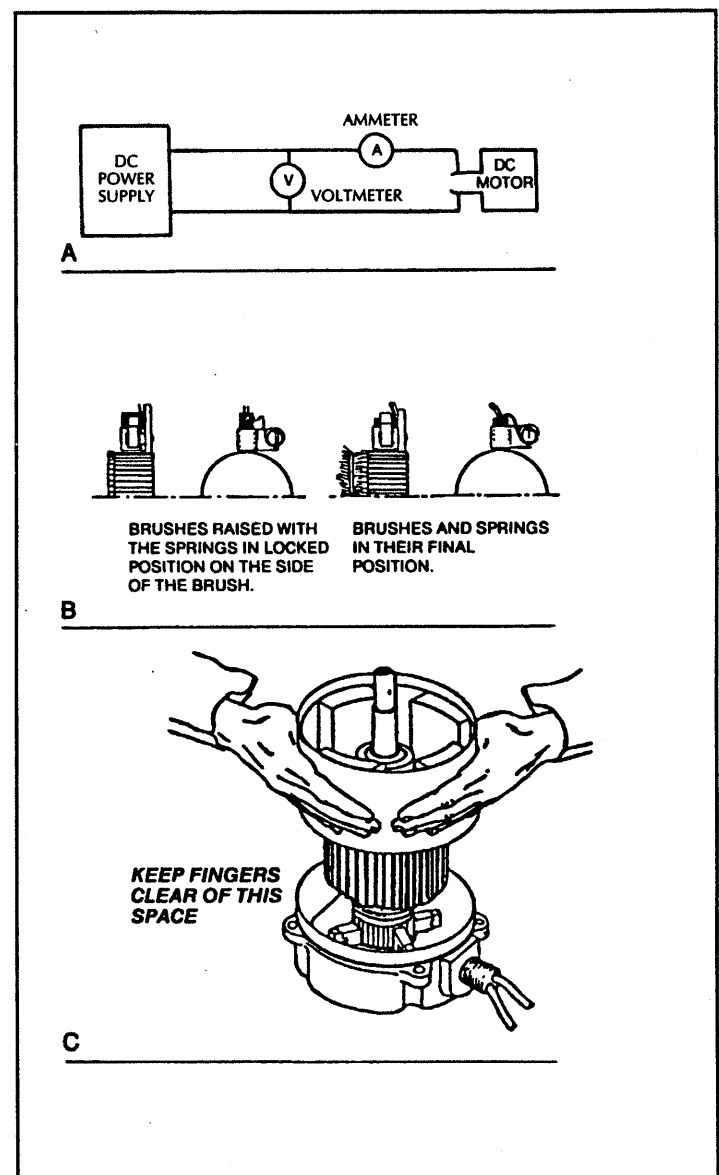

Figure 4-13: Electric Motor Service
4.13 Electric Motor (Figure 4-13)